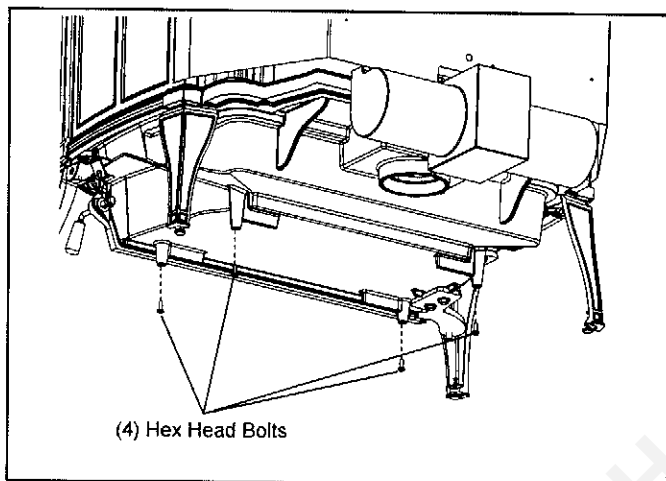

Figure 1
1. Removed the (4) hex head bolts from the shipping brackets and install into the (4) posts located at the bottom of the unit. Figure 1